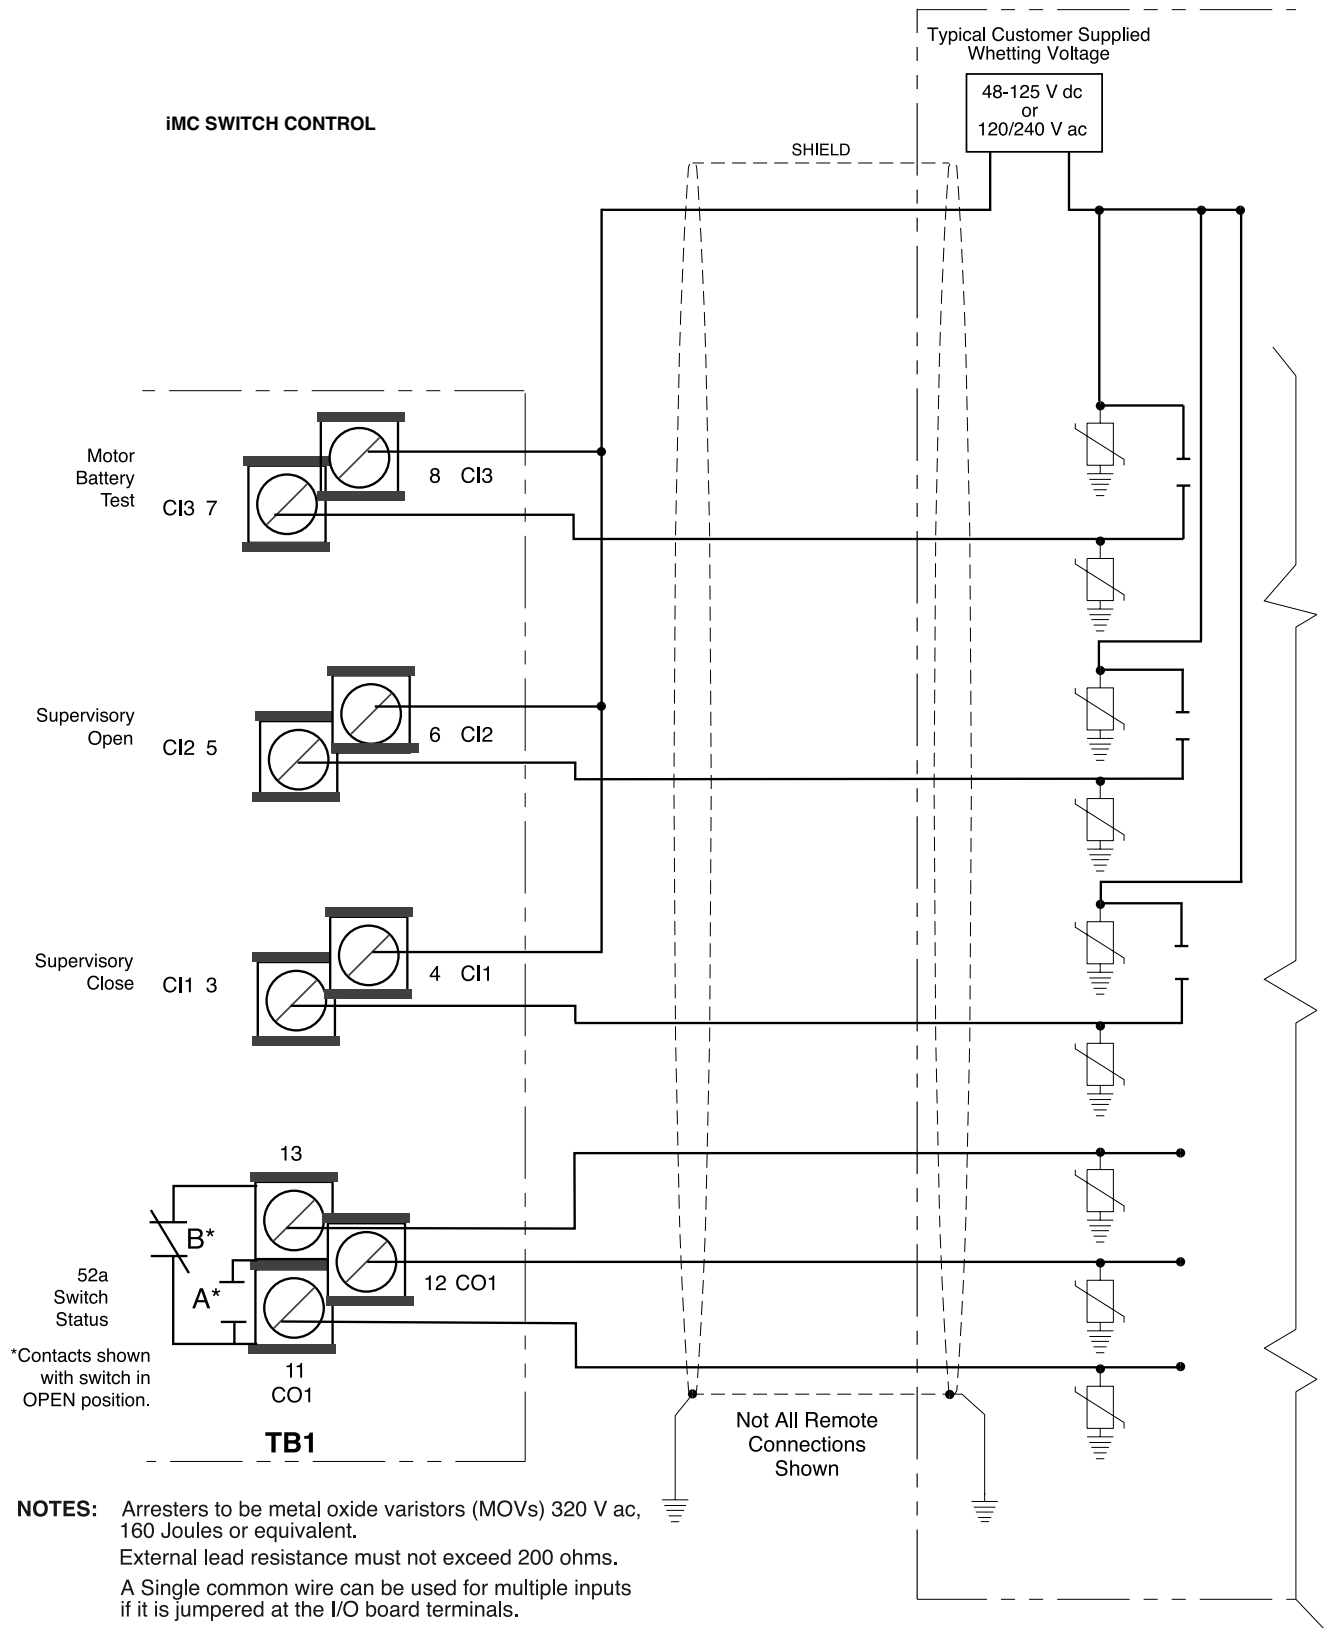

Figure 19.
IMPORTANT: All supervisory operation and control monitor leads must be protected within shielded cables. Refer to Figure 19.
12. Verify customer connections for remote and supervisory operation are completed in accordance with proper shielding and surge protection (Figure 19).